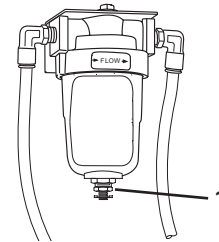

Figure 145
1. Locate the drain fitting (Figure 145, Item 1) on the bottom of the coalescing filter.